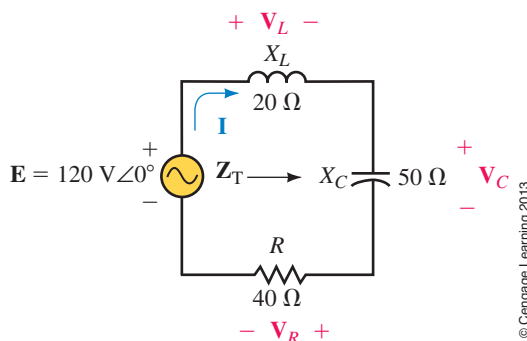

FIGURE 18-93
21. Refer to the circuit of Figure 18-93.